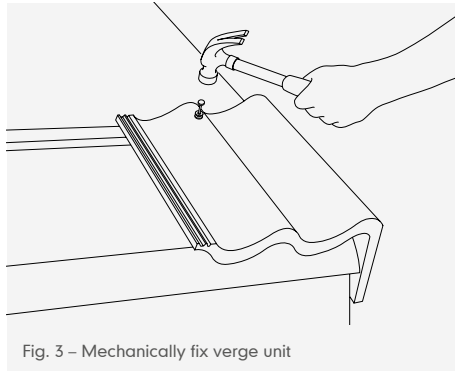

Fig. 3 – Mechanically fix verge unit
- 8 Drive aluminium nail with spacer unit assembly (Fig. 3).
- 3 Commence laying an under-eaves course of tiles using a standard eaves tile or a cloak verge tile cut down to size (Fig. 3, page 167).